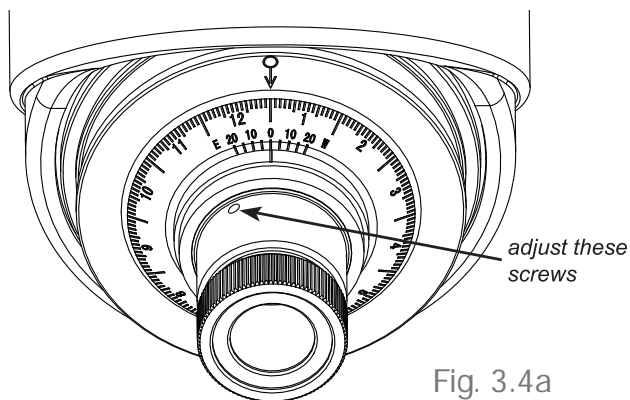
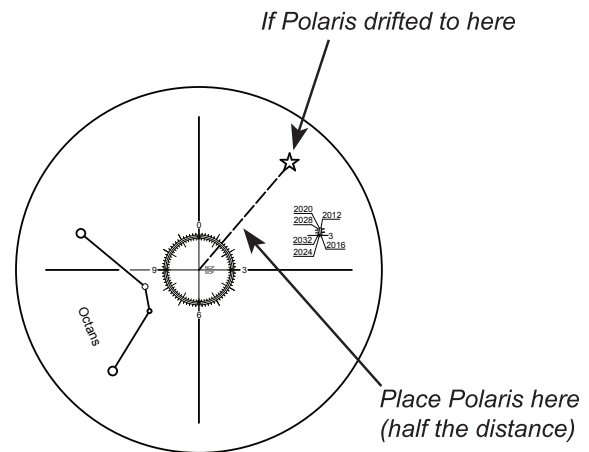

Fig. 3.4a
Fig. 3.4b
4. If the target deviated from the reticle, then use a 1.5mm Allen wrench to adjust the three small Allen screws on the polar scope (Fig. 3.4a) to eliminate the deviation to half. (Fig. 3.4b)